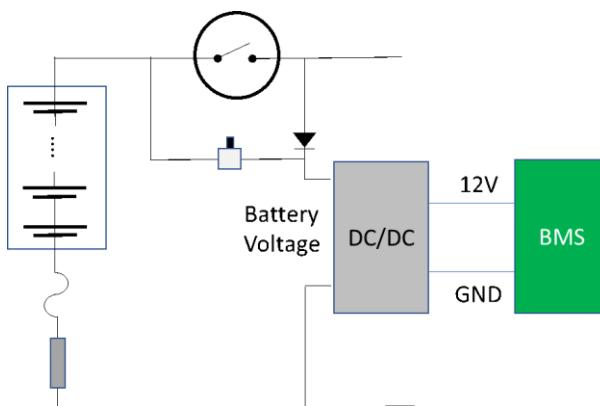

Figure 6.5: Battery pack where the BMS is powered from the main battery via a DC/DC converter.
In this case, the 12 V power to the BMS can be provided by a DC/DC converter fed from the main battery as shown in Figure 6.5.
- The battery power to the DC/DC converter should be taken after the contactor. Otherwise, the DC/DC converter may drain the battery when the system is off. To start-up the system again after the contactor has been opened, a spring loaded manual push-button switch (in combination with a diode) can be included as shown in Figure 6.5.